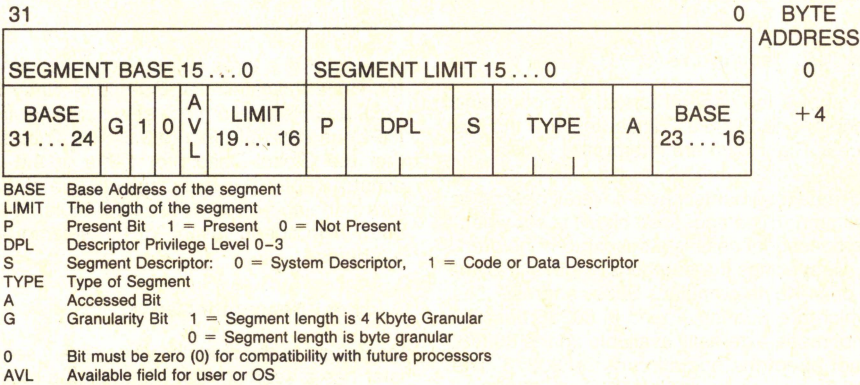

Figure 3.3. Segment Descriptors
ment, the 20-bit length and granularity of the segment, the protection level, read, write or execute privileges, and the type of segment. All of the attribute information about a segment is contained in 12 bits in the segment descriptor. Figure 3.3 shows the general format of a descriptor. All segments on the 80376 have three attribute fields in common: the Present bit (P), the Descriptor Privilege Level bits (DPL) and the Segment bit (S). P = 1 if the segment is loaded in physical memory, if P = 0 then any attempt to access the segment causes a not present exception (exception 11). The DPL is a two-bit field which specifies the protection level, 0-3, associated with a segment.